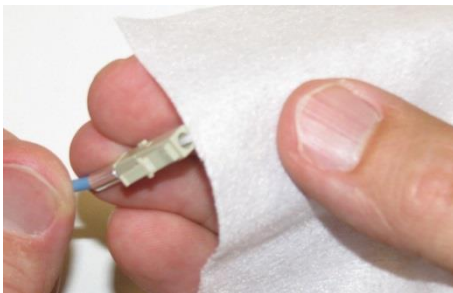

Figure 15
- 4.6. Remove any glue that is not yet hardened at the fibre with a cleaning cloth; preferable by using the edge of it (figure 15). **Important:** Work carefully in order to prevent the protruding fibre from breaking! When done properly there will be a solid green dome of glue that covers the fibre entirely.